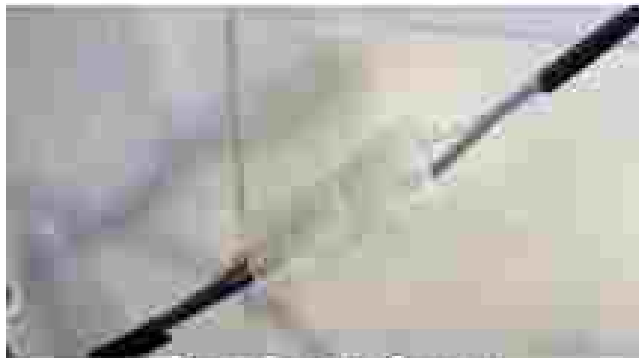

Figure 1 - Door Switch Connector
4. Disconnect the door switch "inline" connector as shown in Figure 1.